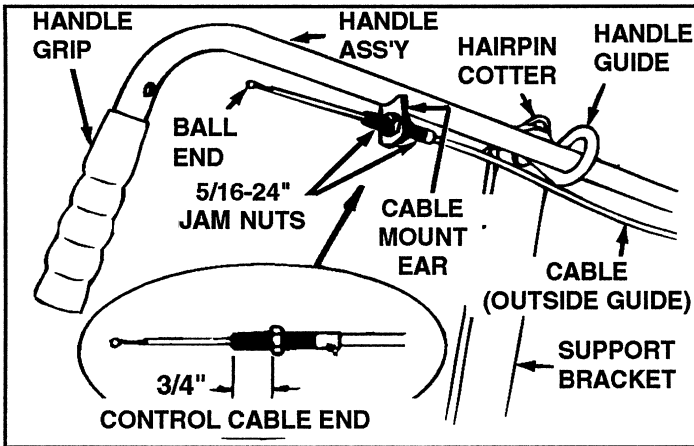
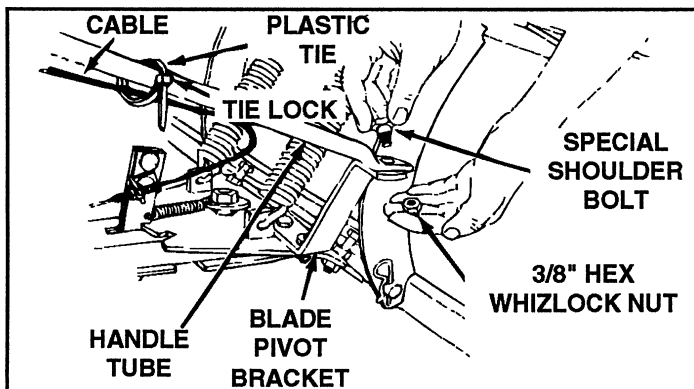
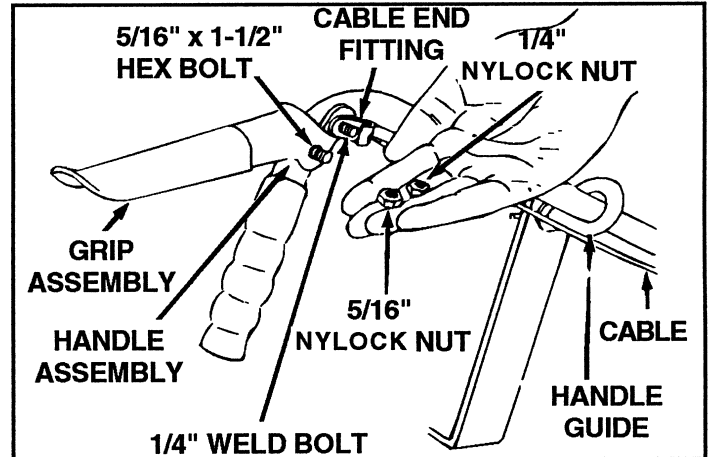

FIGURE 23
FIGURE 24
FIGURE 25
24. Assemble handle assembly down through handle guide as shown in figure 23. Secure lower end of handle to top side of blade pivot bracket with special shoulder bolt (on top) and 3/8" hex whizlock nut underneath. See figure 24.
25. Assemble one 5/16-24" jam nut onto threaded end of control cable approximately 3/4" from end. Assemble threaded end of cable up through cable mount ear and secure with second 5/16-24" jam nut. See figure 23.
26. Assemble handle grip onto end of handle if not already pre-assembled. See figure 23.
27. Wrap plastic tie around handle tube and cable, (see figure 24), assembling end of tie through lock. Pull plastic tie tight to retain cable to handle tube near front of tractor hood. Cut off extra plastic end.
29. Assemble ball end of cable (see figure 23), through round hole in cable end fitting and into slot of fitting. See figure 25. Assemble cable end fitting over 1/4" weld bolt on grip assembly and secure with one 1/4" nylock nut. **NOTE: Do not over tighten lock nut, cable fitting must pivot freely.**